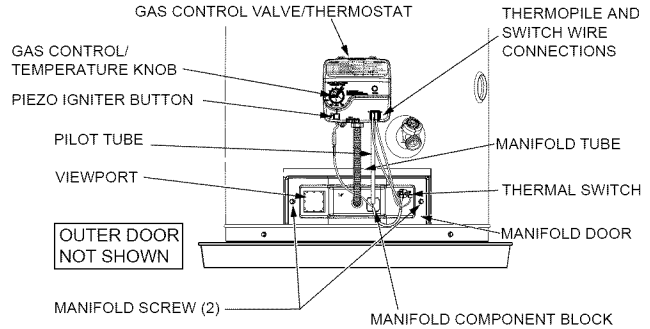

FIGURE 33.
4. Disconnect the igniter wire from the igniter lead wire. Use needle nose pliers to disconnect the red (+) and white (-) thermopile wires. Disconnect pilot tube (7/16" wrench) and manifold tube (3/4" wrench) at the gas control valve/thermostat (Figure 33). **NOTE:** L.P. Gas systems use reverse (left-hand) threads on the manifold tube.